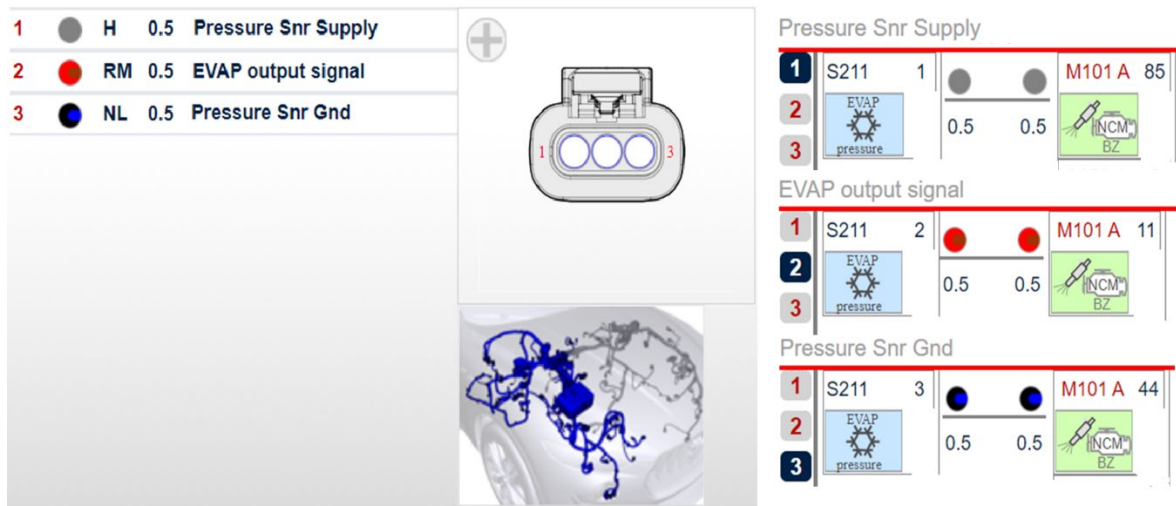

Figure 6: Fuel vapor pressure sensor on high load purge line.
- b. Check the wiring harness integrity (Figure 6): Ensure there are no short circuits to power supply or ground and no open circuits. Perform these checks with the KIN in the OFF position, disconnected battery power supply and disconnected connectors from ECM and sensor, in order to isolate the wiring.
- c. Check at pin 1 (Figure 6) of the pressure sensor connector to ensure the power supply of 5V is present, with the KIN in RUN position.